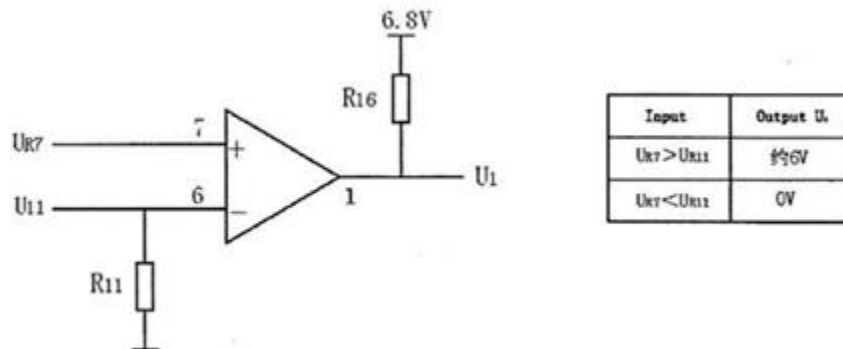

Fig. 6-4: Close-down Detection Circuit of Compressor
(1) **Close down detection circuit of compressor.** As indicated in Fig.6-4, in the control circuit of GR-204E refrigerator, the power comparator composed by chip LM339N operational amplifier, by comparing the output voltage U_{R7} and U_{R11} of the above two circuits (output of temperature detection cct U_{R7} and output of temperature regulation cct U_{R11}) the working state of relay RY01 in refrigerating compressor can be controlled, in case of $U_{R7} > U_{R11}$ comparator will output U_1 high level, and the relay RY01 in '1' will remain the original state; in case of $U_{R7} < U_{R11}$, comparator will output u_1 low level, RS flip-flop in '0' will turn over, and relay RY01 will back out. R16 is a pull up resistor, which is the functional to raise the potential at the point of U_1 when U_1 outputs high level. U_1 output will reach the reset of RS flip-flop composed by 4011B (NAND gate), and control the start and stop relay RY01 of compressor.